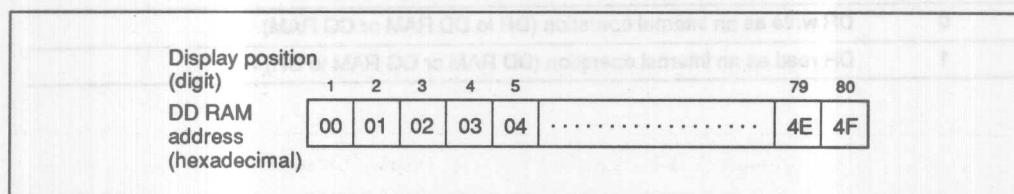

Figure 2 1-Line Display
- 1-line display ( $N = 0$ ) (figure 2)